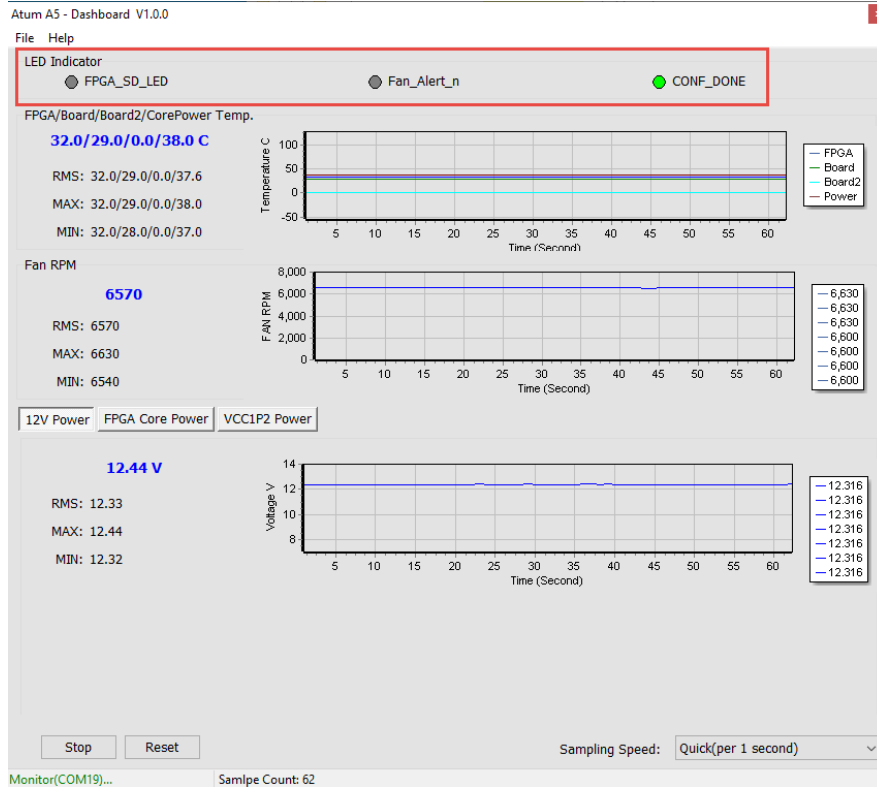

**Figure 3-7 Start and Reset button**
- **Start/Stop:** As shown in Figure 3-7, there is a **Start** button at the bottom-left of the GUI window. Click it to run the program (**Start** will change to **Stop**), it will show the Atum A5 board status. Users can press **Stop** button to stop the status data transmission and display.